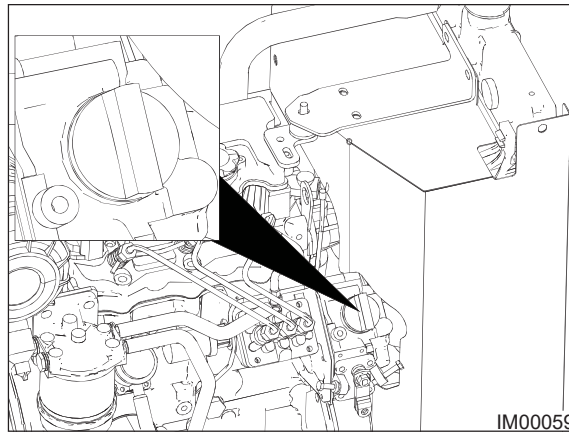

Fig: 11.15 - Filler Cap
2. Remove the oil filler cap (Fig: 11.15).